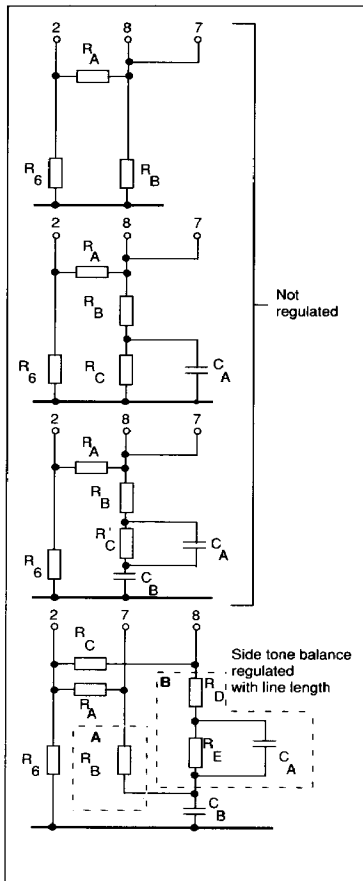

Figure 10. Examples of network ④.
2. Line length compensation of side tone level. (See fig.10).
The example is not optimized to any specified line, it is only given to show the principle. The inputs of the amplifier F3 is high ohmic. For some different side-tone networks, see fig. 10.
Design of a side tone network with regulation according to above can be done as follows. (Fig. 10).